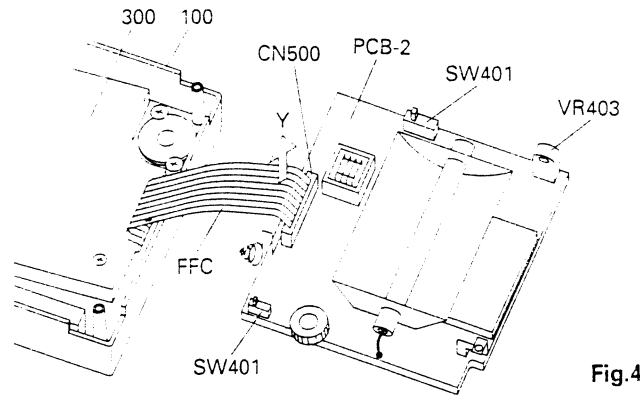

Fig.4
- Hold the FFC (Flexible Flat Cable) and gently pull out the FFC in the direction indicated by the arrow Y to remove it from the connector (CN500) on the PCB-2. Fig.4